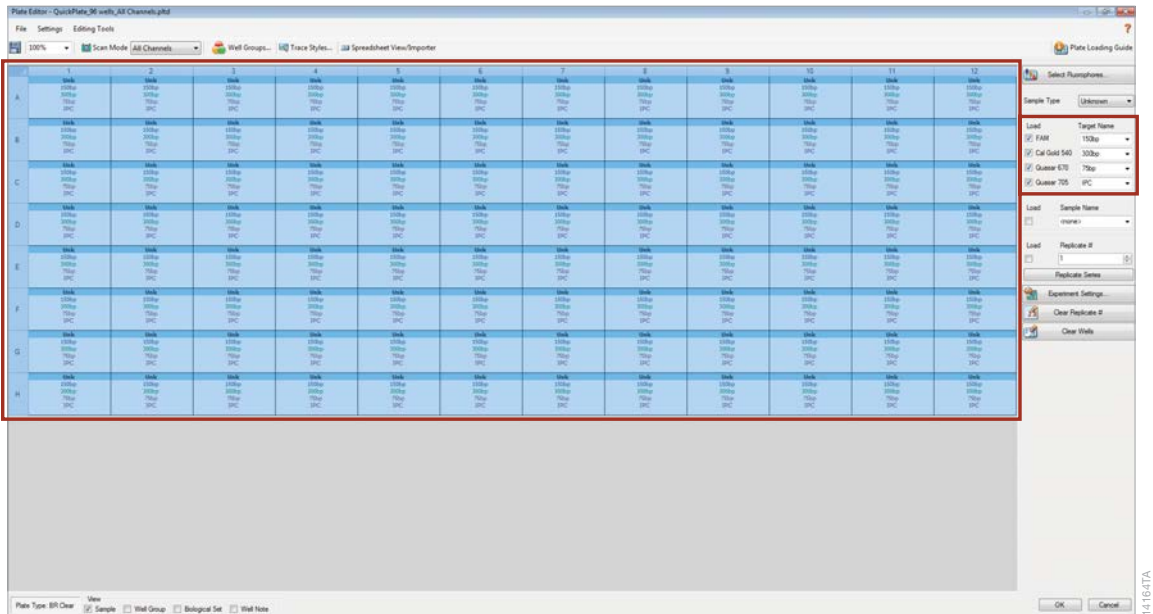

Figure 4. The Plate Editor screen—Assigned Targets.
6. Highlight all 96 wells of the plate, type the names as listed below and press the Enter key (Figure 4).